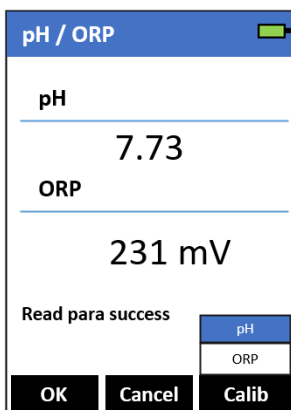

Figure 18.
5. Press **Calib** (  ) as needed to highlight **pH** calibration in the selection menu (Figure 18).